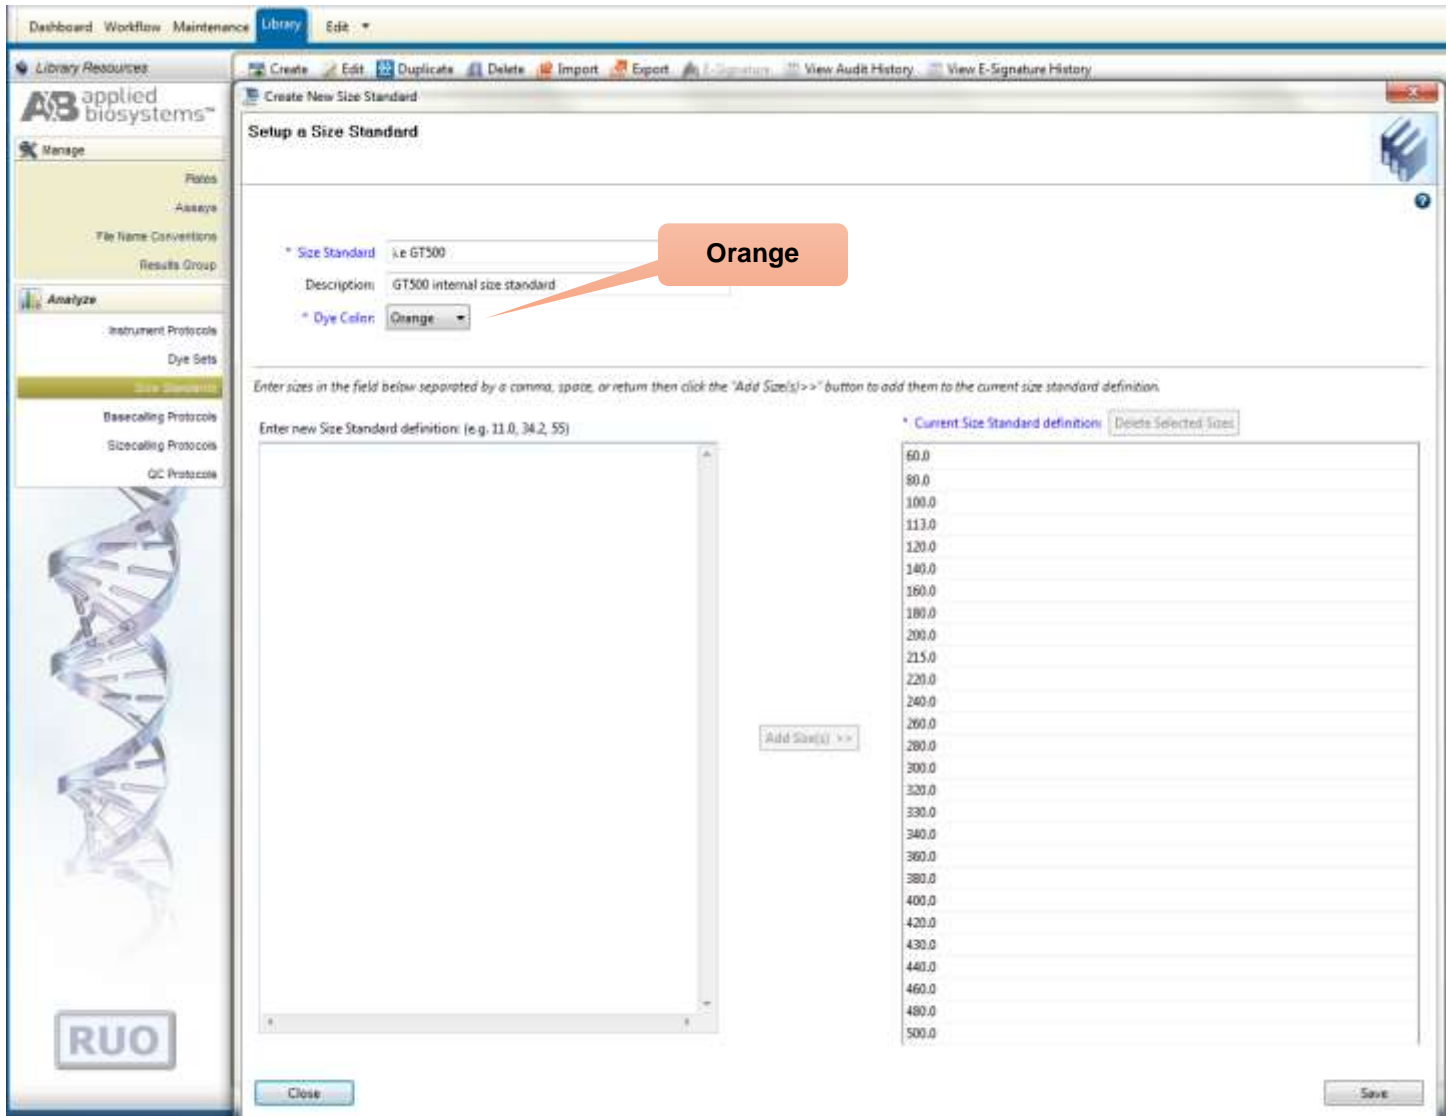

Figure 6. Screenshot for the “Create New Size Standard” window on Applied Biosystems® 3500 Data Collection software
- c) Select “Create” (Figure 6)